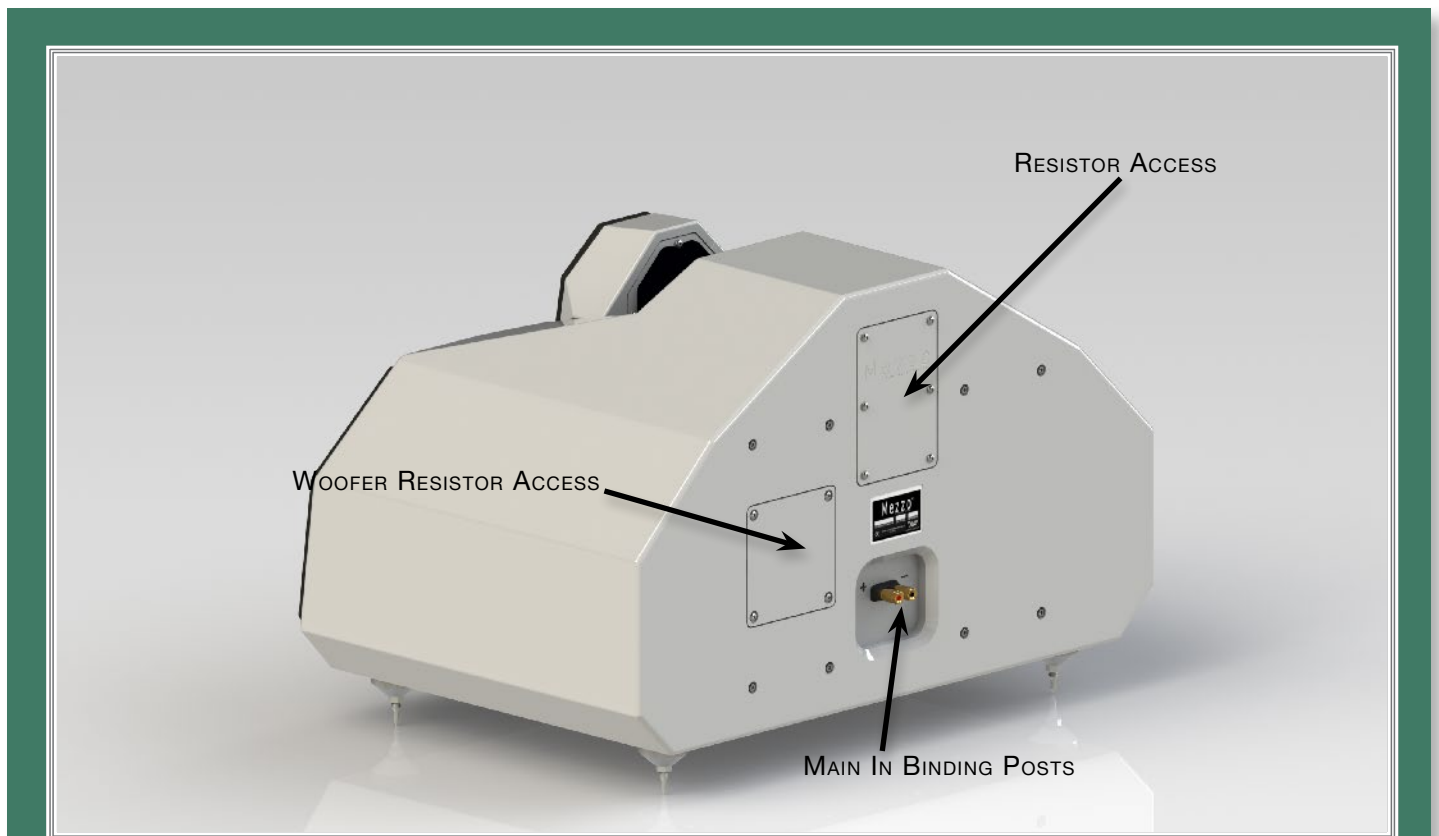

FIGURE 12 – MEZZO CONVERGENT SYNERGY CABLE CONNECTION AND RESISTOR ACCESS
3. Connect the negative (normally black) end of the speaker cable to the high current speaker binding post with the silk-screened “-” above it (see Figure 12).